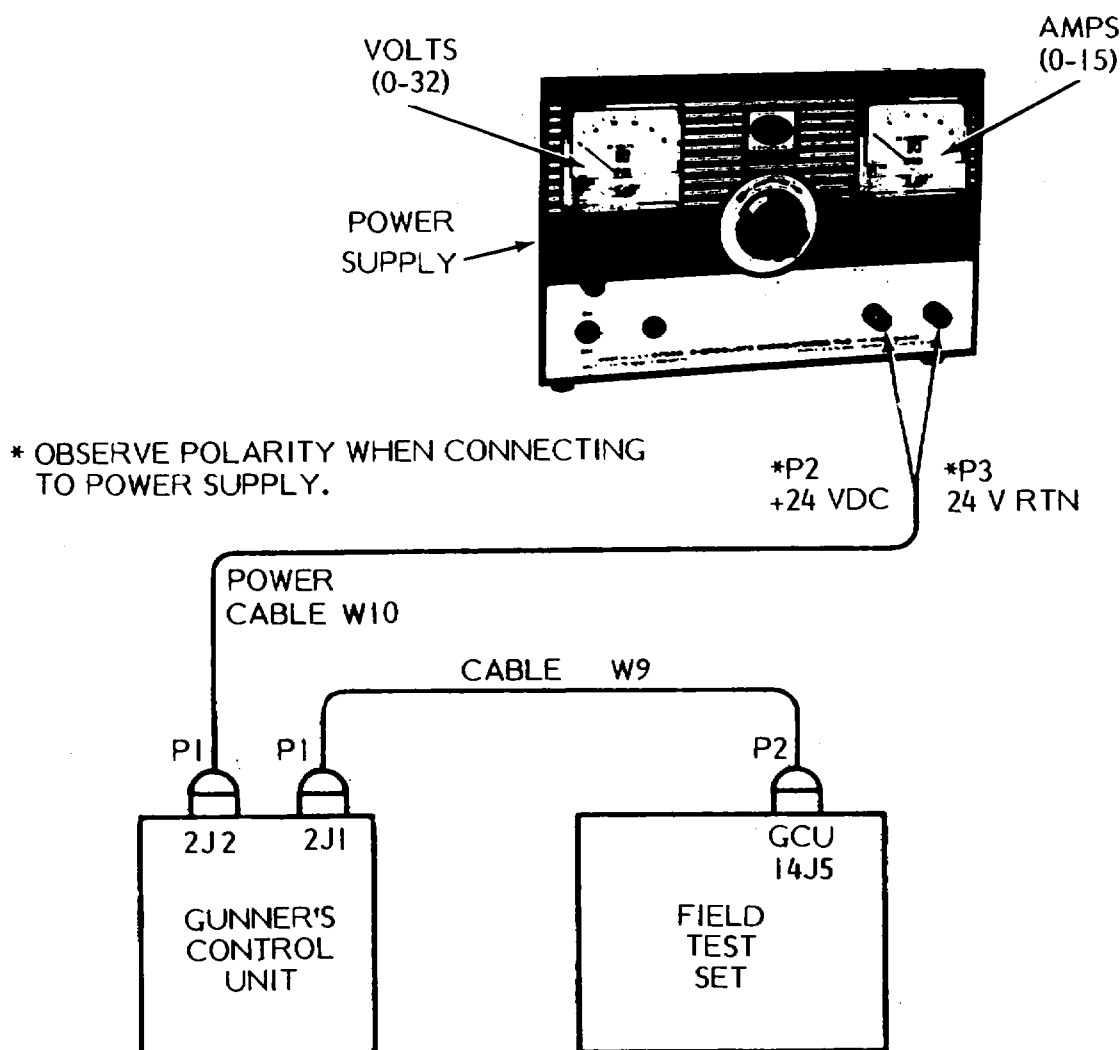

Figure 2-3. Gunner's control unit test setup AK703424
(1) Connect the FTS (item 2, table 1-1), and GCU as shown in figure 2-3. Connect power cable W10 to power supply (item 5, table 1-1). Adjust prime power to read between 21.6 and 26.4 vdc. Ensure power remains constant throughout the GCU checkout for valid results.